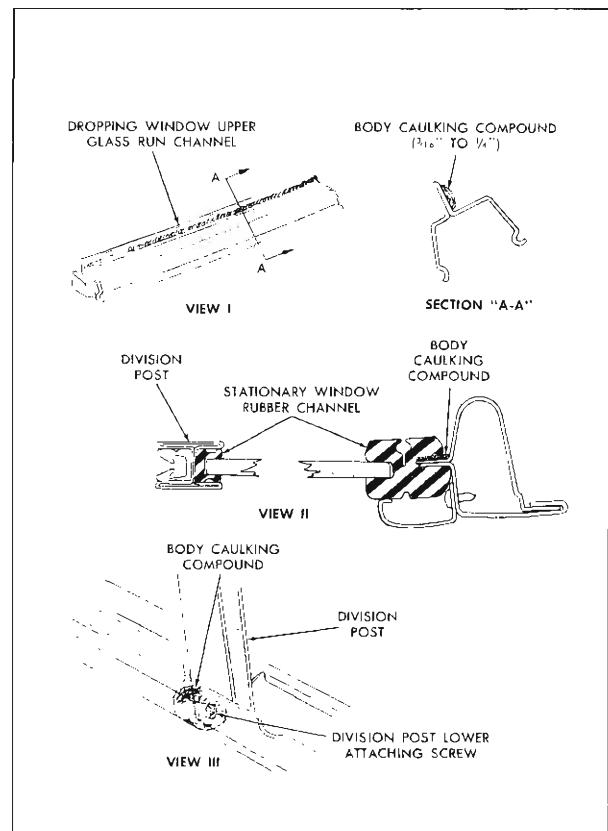

Fig. 14-22 Stationary Window Sealing
6. Apply a bead of body caulking compound to retaining flange of dropping window upper glass run channel (Fig. 14-22, View 1) and install channel.
7. Apply a bead of body caulking compound under inner lip of rubber channel across top, down outer edge, and across bottom to effect a weathertight seal between rubber channel and pinchweld flange (Fig. 14-22, View 2).
9. Apply body caulking compound over division post lower attaching screw and opening at belt line to effect a seal (Fig. 14-22, View 3).